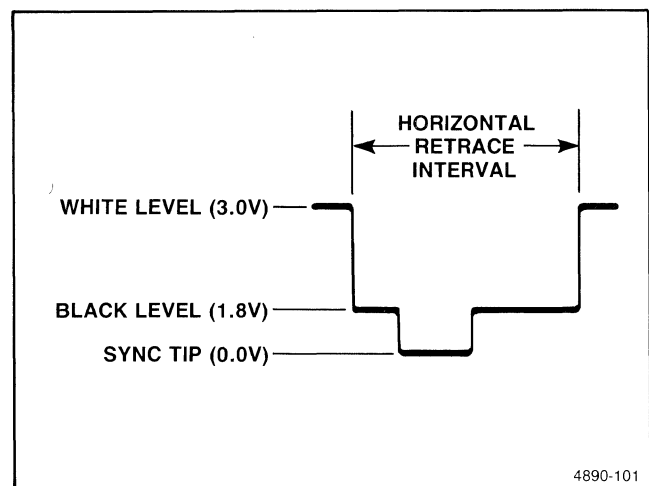

Figure 5-12. Preset the Video Signal for this Appearance at TP01.
6. Turn the front panel BRIGHTNESS control to minimum (counterclockwise). Then, preadjust SUB BRIGHT ⓐ (VR1306 on the interconnect board) for a back porch level of 1.8 volts, ± 0.2 volts. See Figure 5-12.